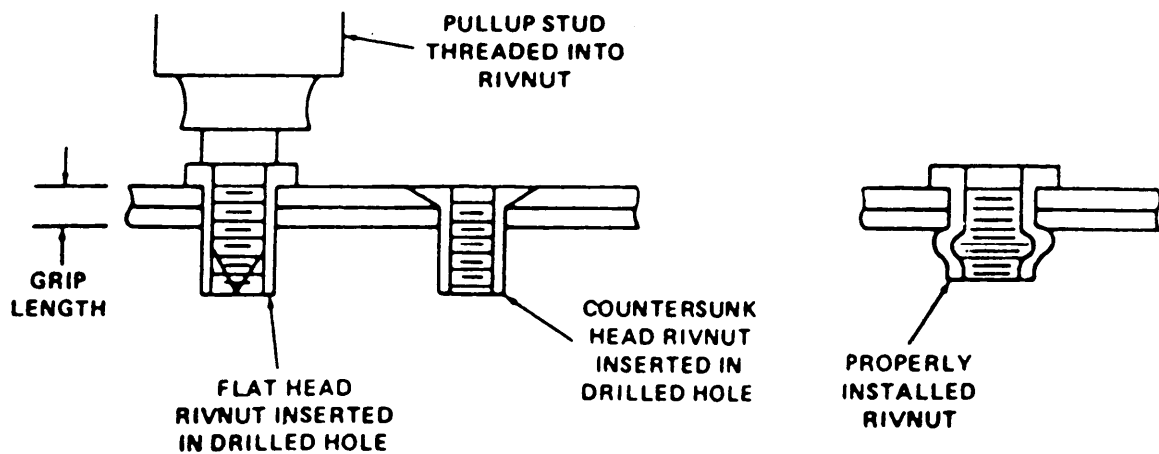

Figure 3-7. Installing Rivnuts.
(1) *Installation.* (Figure 3-7)